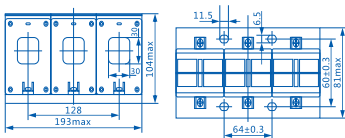

Figure 3 Outline and Installation Size of NJBK2-400 Protector
3.2 Outline and installation size of NJBK2-400: see Figure 3, unit: mm.